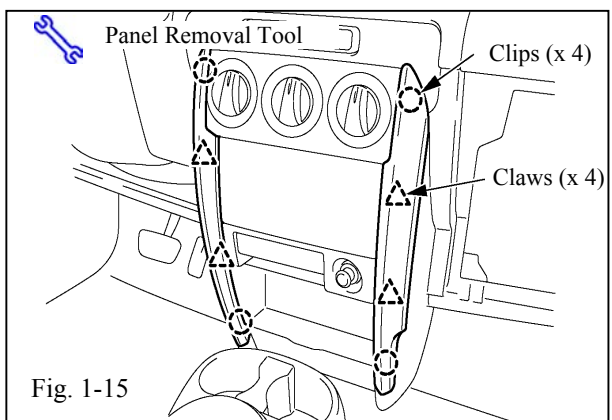

Fig. 1-15
- (1) Disengage the clips and claws and remove the instrument cluster finish panel. (Fig. 1-15)